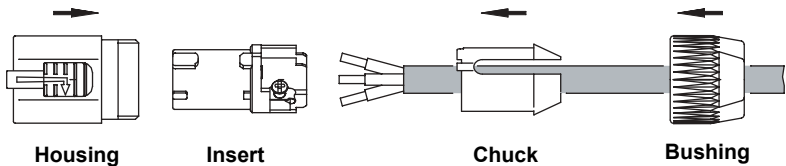

Figure 5: Cable connector assembly
1. Assemble the bushing and chuck on your power cable as shown in Figure 5.